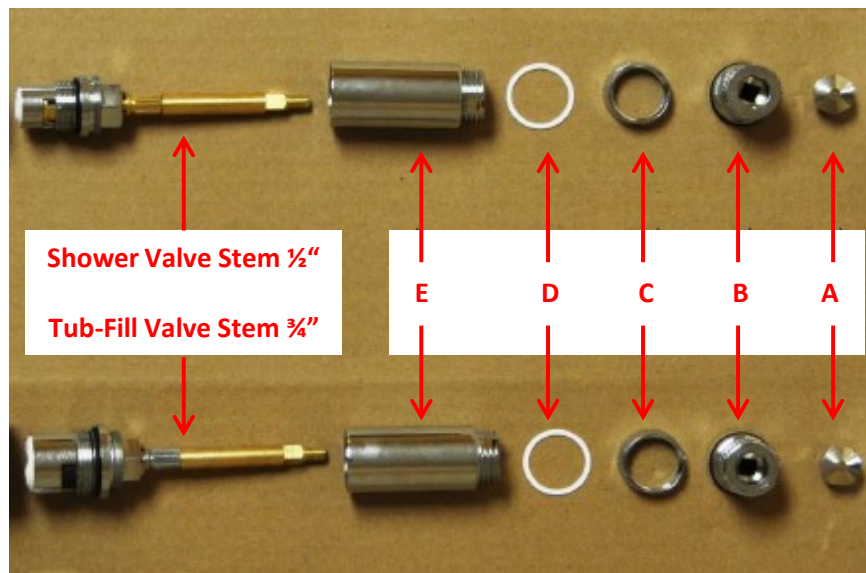

Figure 1
Step 3: Using a crescent wrench, remove part A (fig. 1). Hold the valve assembly firmly with your fingers.
Step 4: Remove part B (fig. 1). Simply pull straight out.
Step 5: Using a crescent wrench, remove part C (fig. 1).